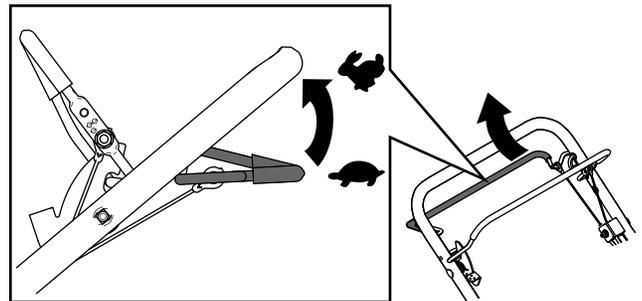

Figure 17
3. To operate the self-propel drive, squeeze the drive bail (Figure 17).